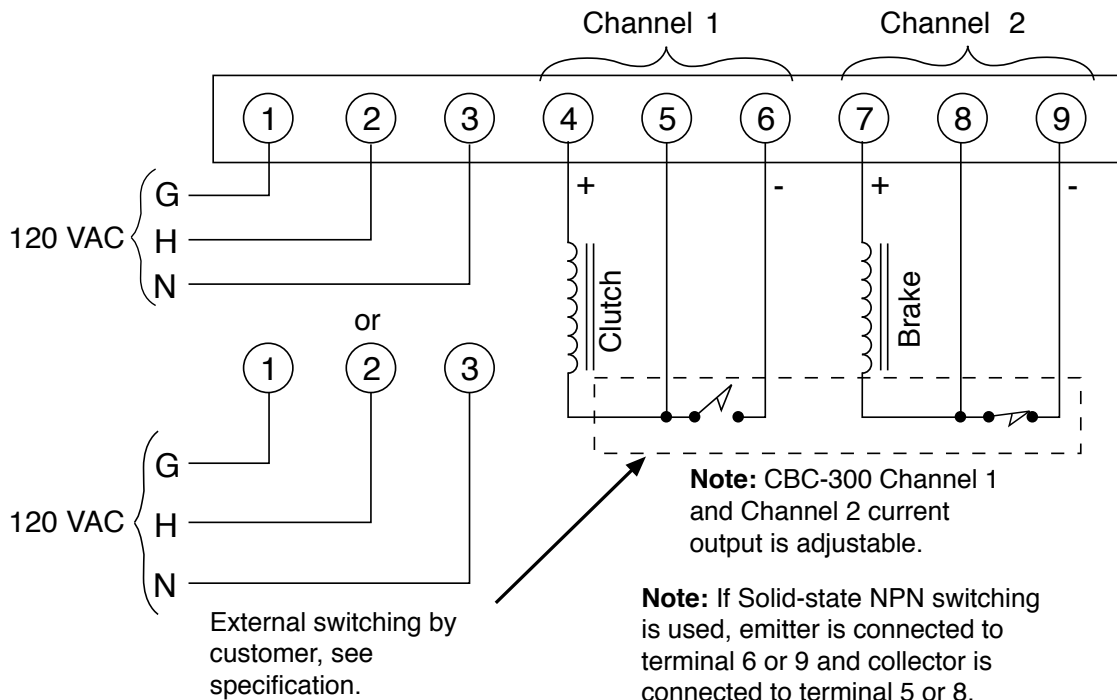

Figure 4
1. Connect either the clutch or brake magnet to Terminals 4 and 5. Tighten Terminal 4 securely (See Figure 4).